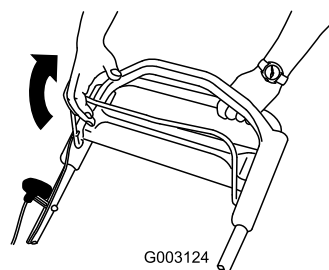

Figure 18
2. Pull the blade-control bar to the handle (Figure 18).